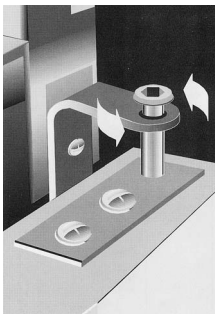

Fig 6.
- Remove the M5 hex screw from the top hinge bracket and push down on the spring loaded cartridge top (fig. 6).
The door is then free to be pulled clear of the top hinge bracket and then lifted clear of the bottom hinge bracket (fig. 6).